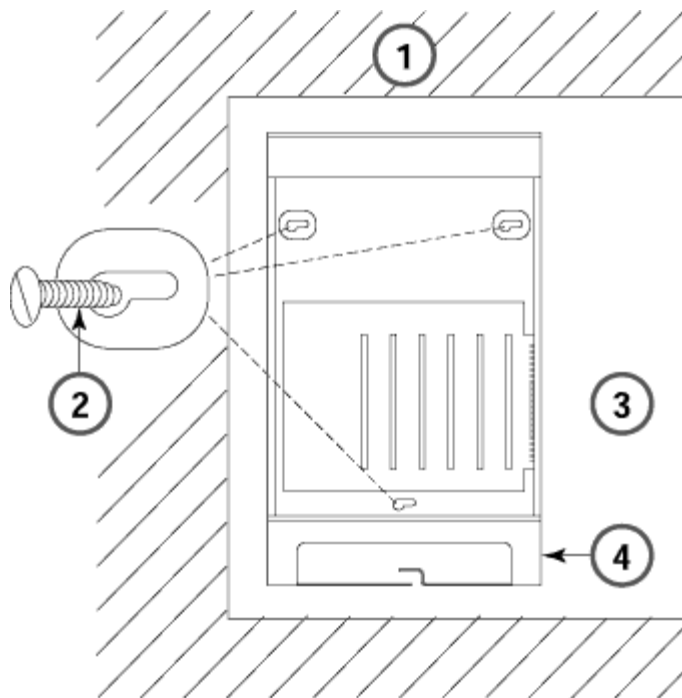

Figure 2-1. Marking the Basic Carrier Screw Holes
1. Mark the screw-hole locations on the backboard using the carrier or the diagram in Figure 2-1 as a guide. Make sure the carrier is level before marking the holes.